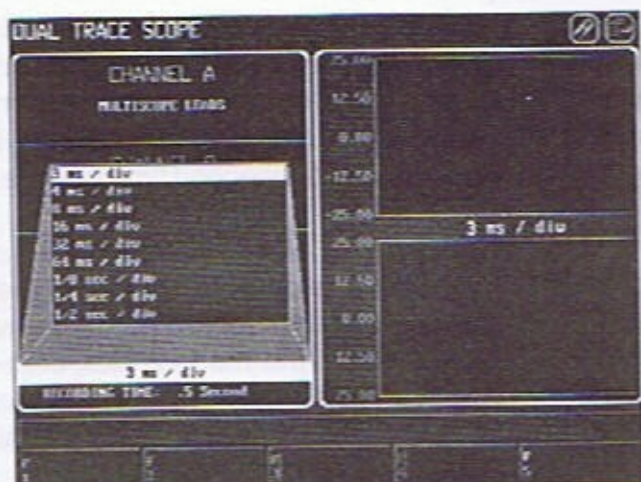

Figure 3-51
5. To change the time scale, use the up- or down-arrow keys to highlight the **TIME SCALE** selection and press [ENTER]. A drop-down menu will appear (see Figure 3-51). Highlight the correct time scale and press [ENTER].